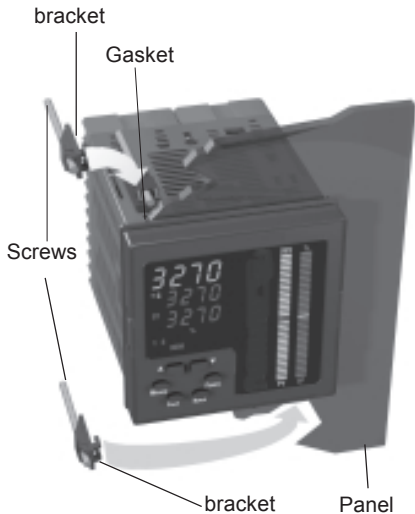

Fig. 1
To assure the IP65 and NEMA 4 protection, insert the panel gasket between the instrument and the panel as shown in fig. 1. While holding the instrument against the panel proceed as follows:
- 4) insert the mounting brackets as shown in fig.1;